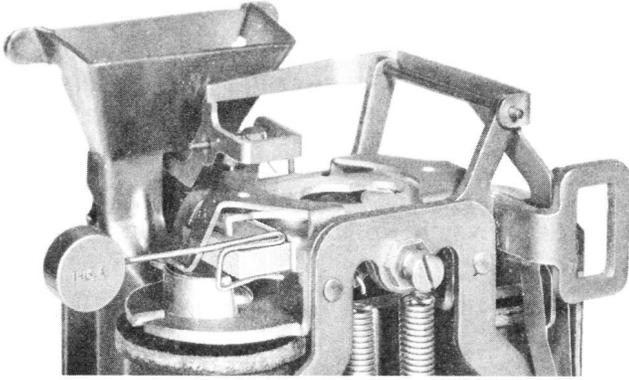

Fig. 8 – Bias Margin Test
- (1) To test in collect direction, place a 146A gauge on left side of armature (see Fig. 8).
- (2) Connect hand test set across line terminals.
- (3) Trip coin trigger (see 4.09).